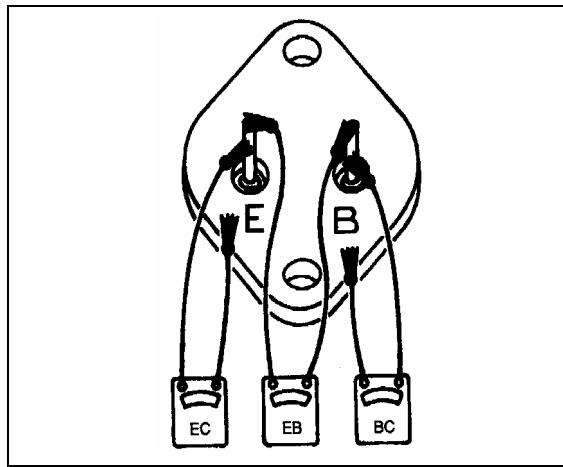

FIGURE 46: CHECKING TRANSISTOR TR1 06081
- By removing any retaining screws involved and unsoldering the connections. When resoldering, limit solder time to a minimum as excessive heat may damage the printed circuit board and component parts. However good soldered connections are essential for satisfactory operation. A resin core 63% tin 37% lead solder with a 360°F (182°C) melting point is recommended along with a soldering iron rated at 50 watts or less. Use extreme care to avoid overheating. Before checking the printed circuit board, remove transistor TR1, which must be checked separately. Connect the ohmmeter as shown in figure 46, and then reverse the ohmmeter leads to obtain two readings on the same component. Use the middle scale on scale-type meters on which the 300 ohm value should be within, or nearly within, the middle third of scale.
Transistor TR1 = See figure 46. Use the low scale. Each of the three checks should read low and high. If not, replace TR1.